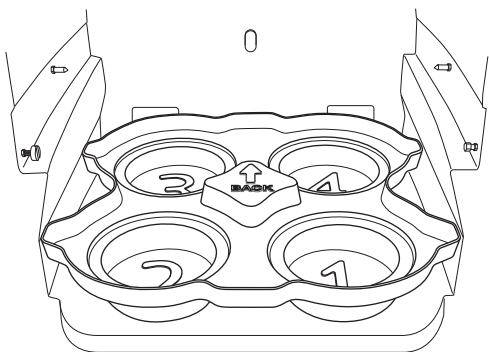

Figure 2-4 Installing the locating base
2. Slide the locating base into the bottom of the refrigerated compartment (Figure 2-4). Note that the arrow must be pointing toward the back of the refrigerator.
- Slide the locating base into the bottom of the refrigerated compartment (Figure 2-4). Note that the arrow must be pointing toward the back of the refrigerator.